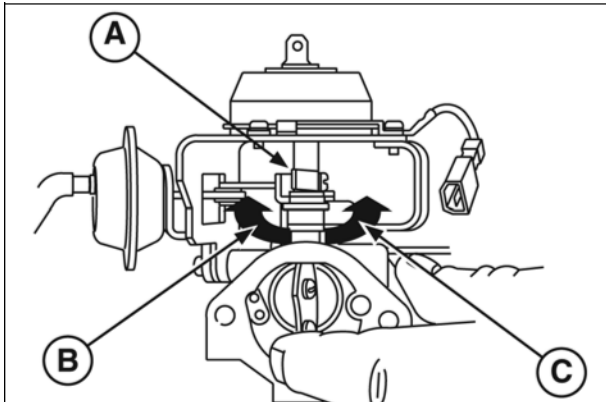

Figure 52
3. Carefully bend pre-load lever (A, Figure 52).
- Bend lever to left in increase dimension (B).
- Bend lever to right to decrease dimension (C).